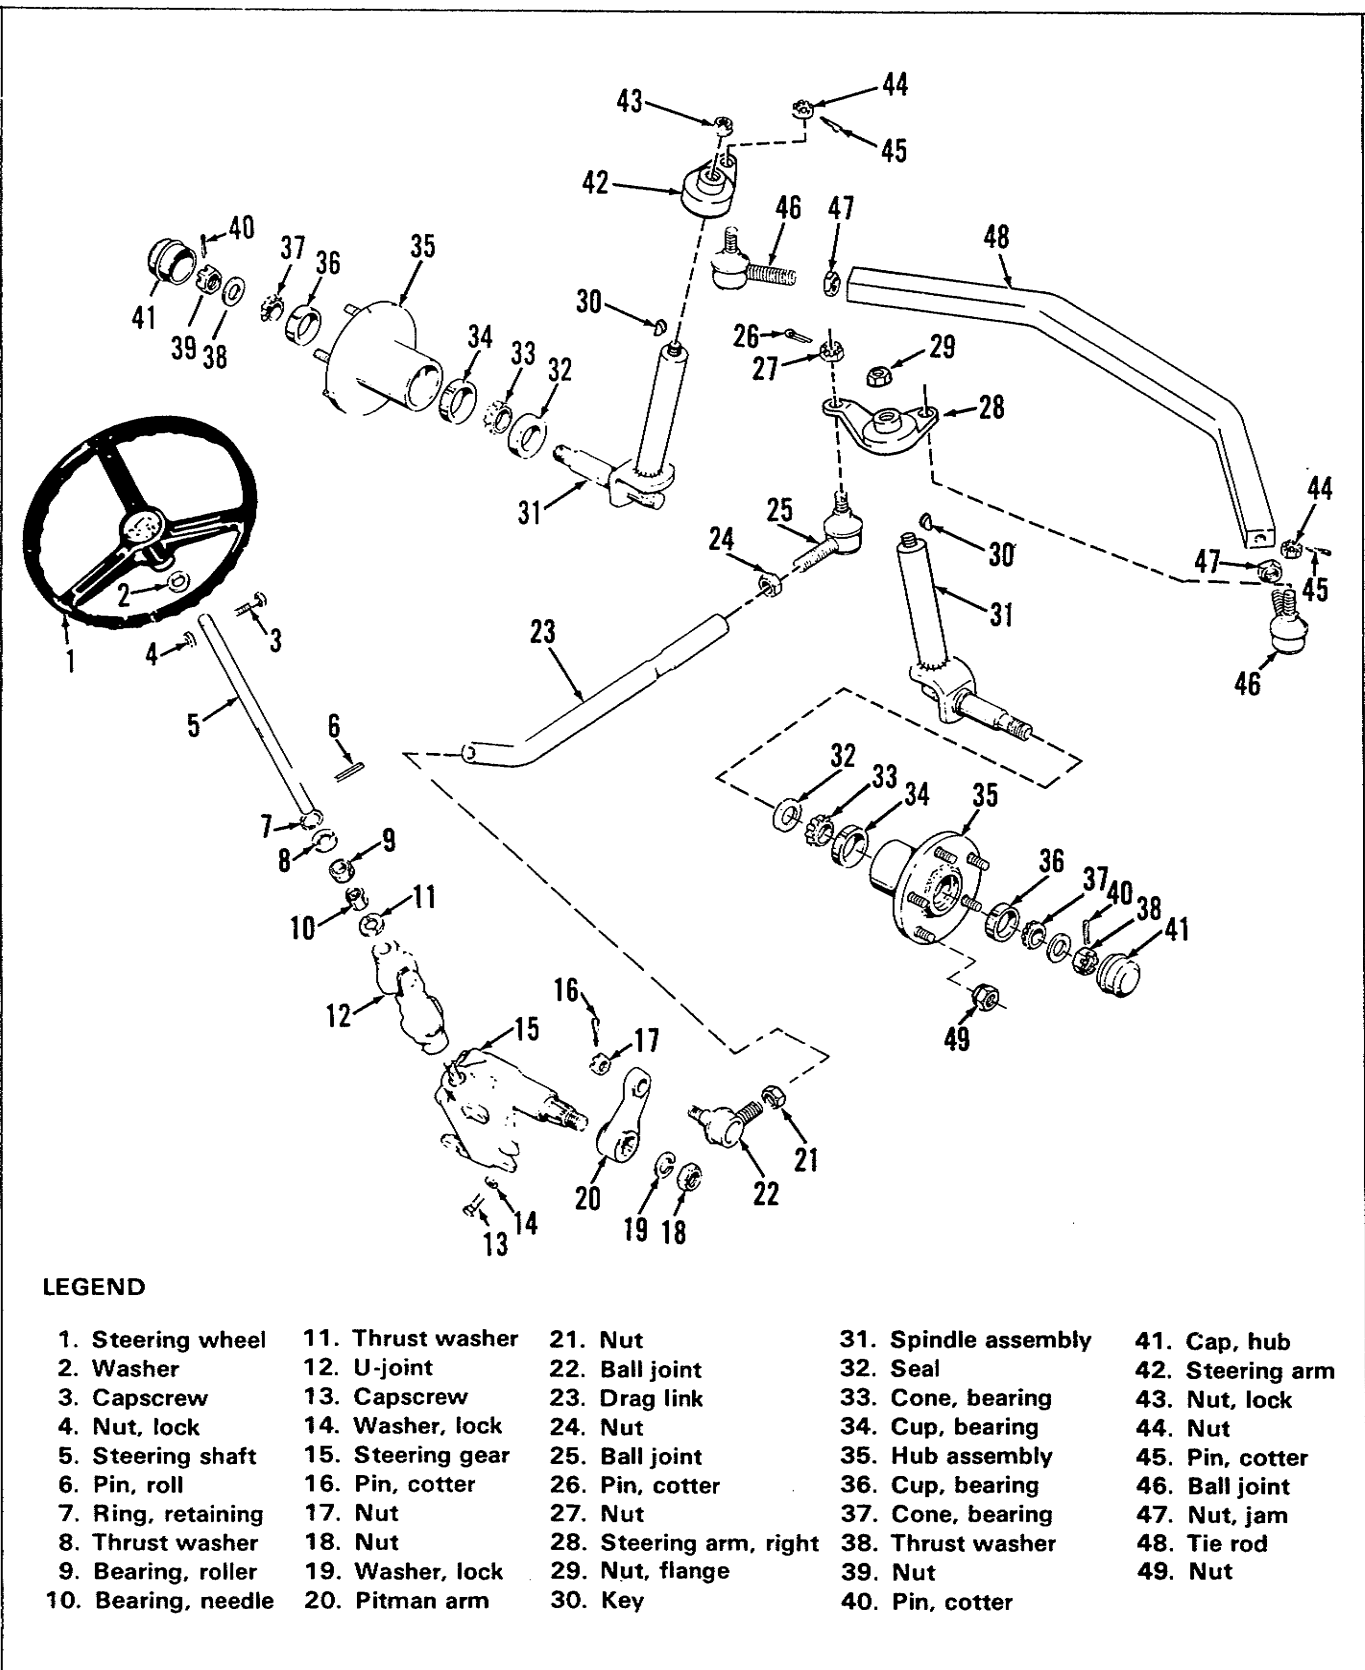

Figure 47. Steering Shaft, Gear, Hub, and Spindle Assemblies
**Steering Gear Removal (Figure 47)**